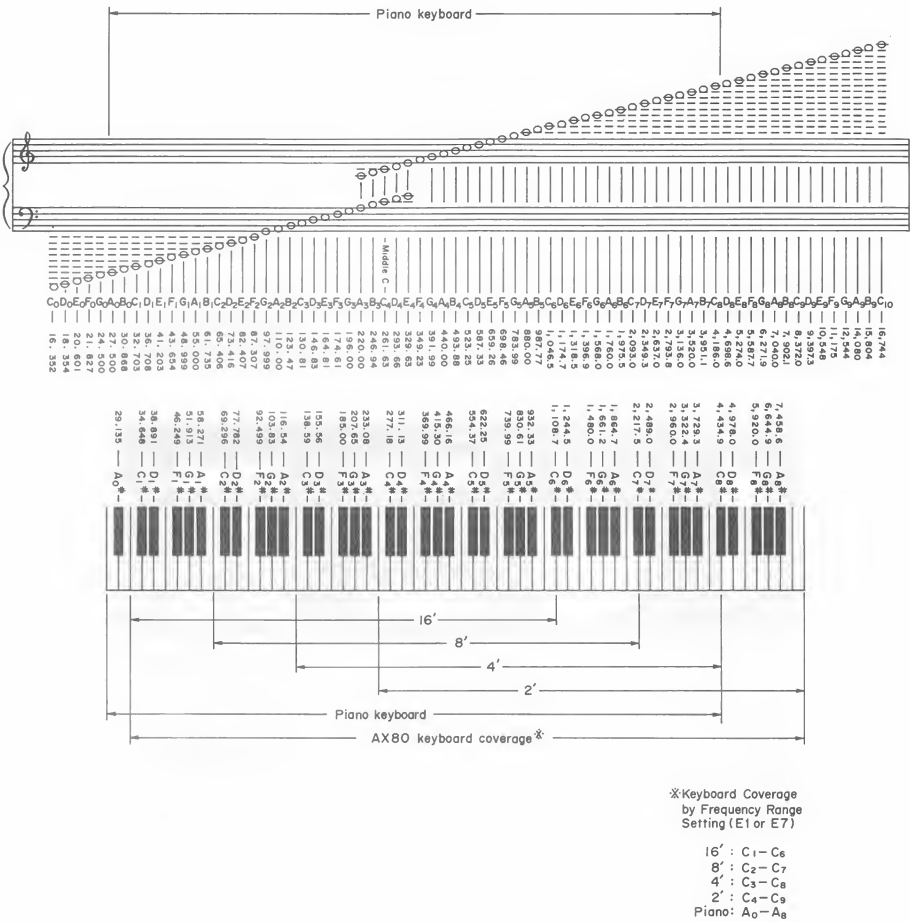

Fig. 4-1
* Key numbers are indicated as the FREQ RANGE at "16" setting (See Fig. 4-1).